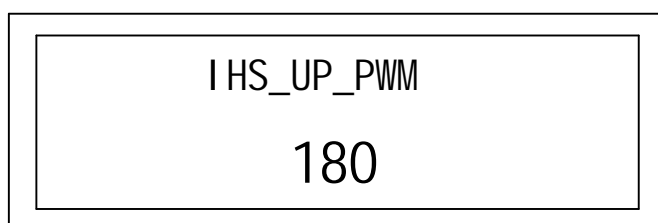

Fig.8: IHS raised PWM setup
3)、IHS_UP_PWM: The PWM during IHS rises to the given height. Fig.8.